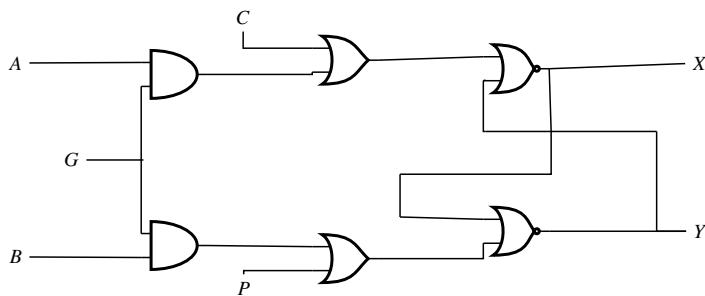

Fig. 5.36
41. For the following circuit Fig. 5.36, the correct logic values for the entries X_2 and Y_2 in the truth table in Table 5.3 are (PH2019,36)